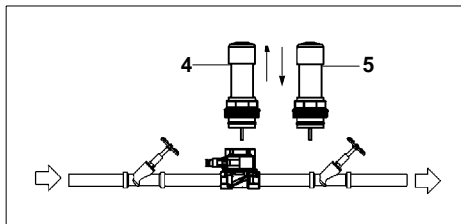

Fig. 7: Cartridge exchange III
4. Lift the empty phosphate cartridge (4) out of the device (see Fig. 7).
5. Insert the new phosphate cartridge (5) into the device.
All dimensions in [mm] (see Fig.7)